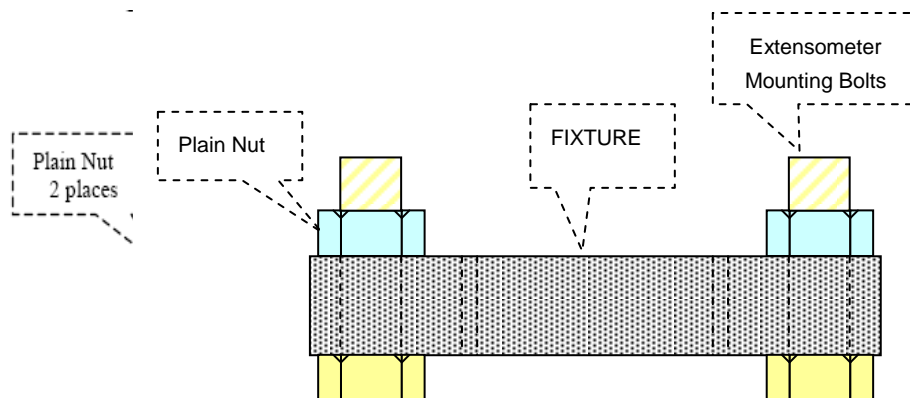

Fig 3.4 Mounting Bolts
- a) Refer to figure 3-4. Assemble the two special bolts (P/N 428838) supplied to the fixture (P/N 258912) with the two plain half-inch nuts and tighten with a spanner.